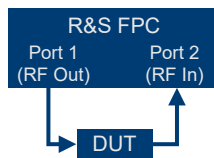

Figure 18-1: Setup of a transmission S21 measurement
1. Connect the DUT to the R&S FPC as shown in Figure 18-1.